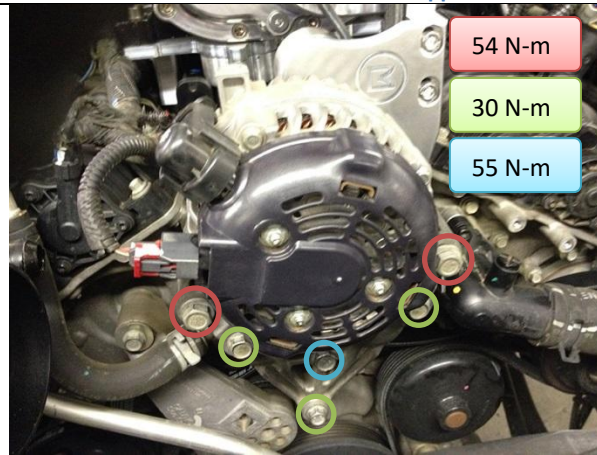

Figure 63: Alternator, support bracket and plate with pulley installed properly.
37.3.4. Torque all bolts on alternator, alternator support bracket and plate with pulley (Figure 63)